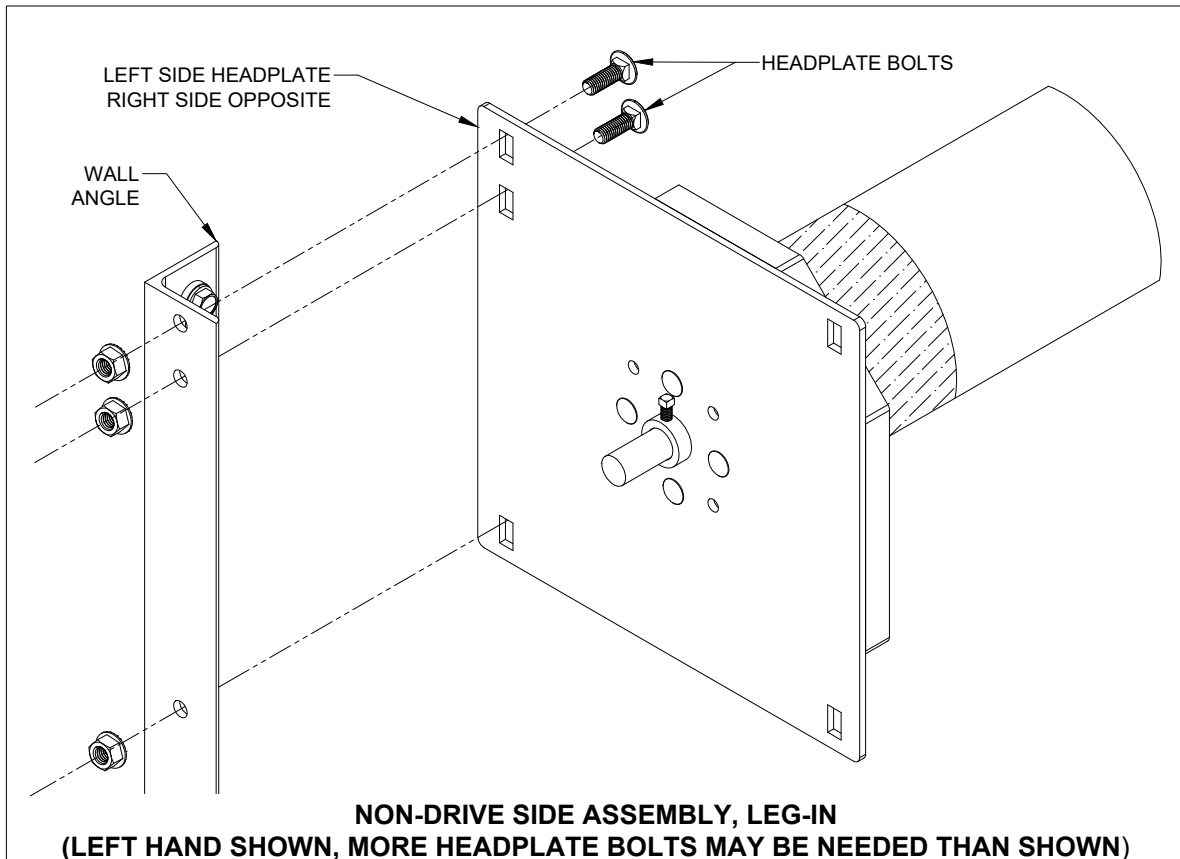

FIGURE 9
- b. Attach headplate brackets to the INSIDE of wall angles as shown in Figure 9.